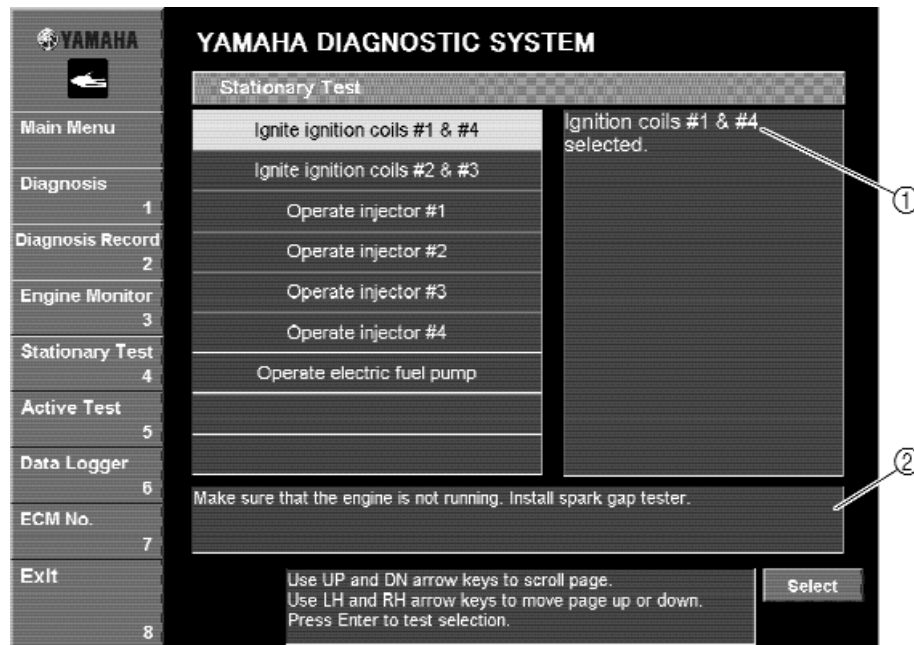

Fig. 39
1. Select the test that you wish to perform by either clicking it or pressing the up or down arrow keys on your keyboard (Fig. 39).
4. Select the cylinder number where the spark gap tester is connected, and then click the **Select** button or press the Enter key on your keyboard (Fig. 39).